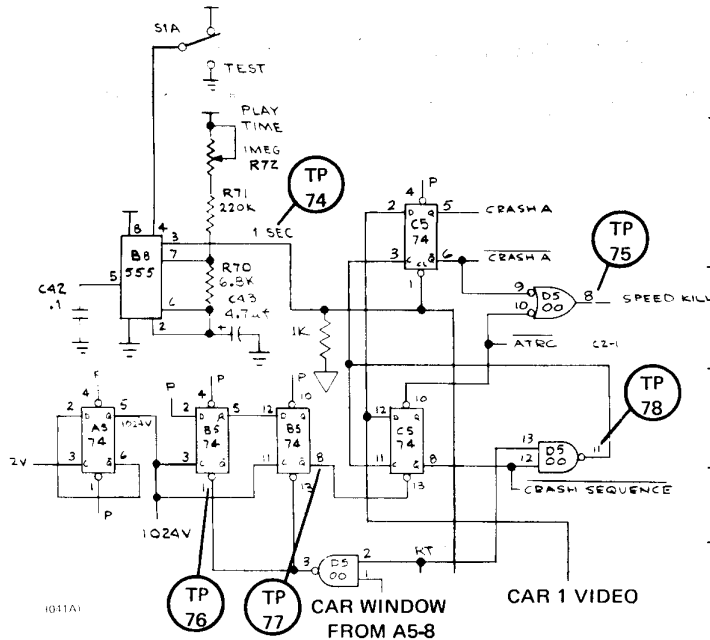

Figure 2-20. Crash and Playtime
times the length of the game, and (3) it incorporates the TEST switch which is used to turn off the playtimer and crash mode when testing the board. See Figure 2-20 for the following discussion.